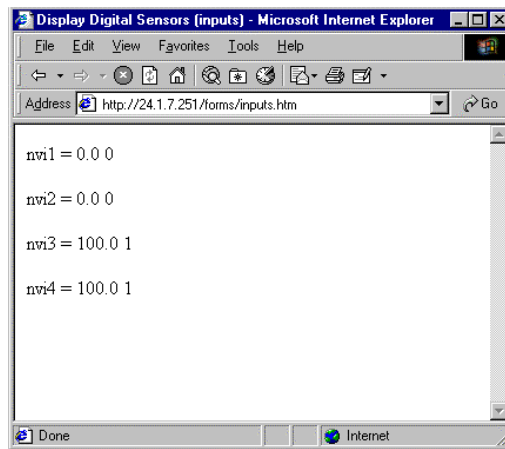

Figure 9-10 – Web Page Displaying Input Network Variable Values
5. Assume that switches 1 and 2 are OFF, and switches 3 and 4 are ON. The HTML code entered in Step 1 will generate the web page shown in Figure 9-10.